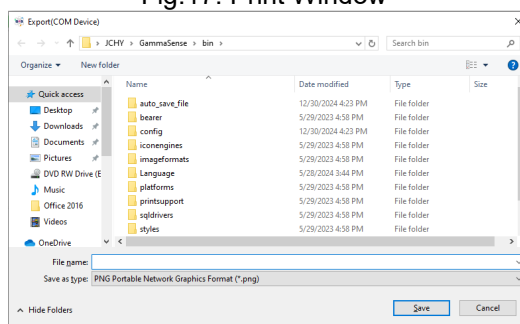

Fig.19: Save Export-Image Path Window
- ② Picture - A window will pop up as shown in Fig.19, where you can select the format, name, and path for saving the Picture.